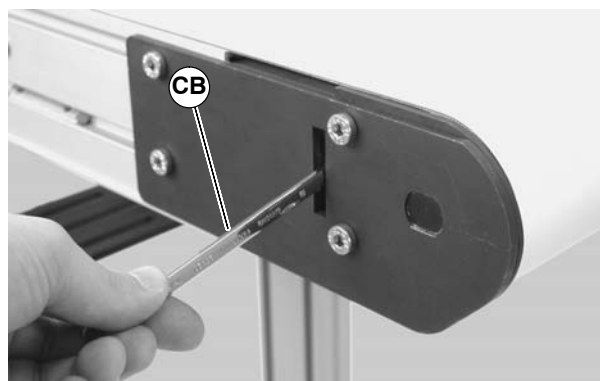
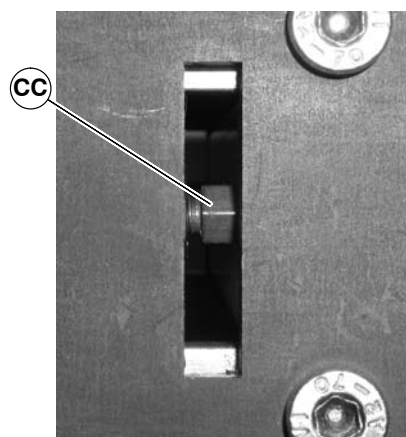

Figure 47
Figure 48
2. With the conveyor running, use wrench (CB of Figure 47) to rotate the tracking screw (CC of Figure 48) in small increments until the belt tracks in the center of the conveyor.